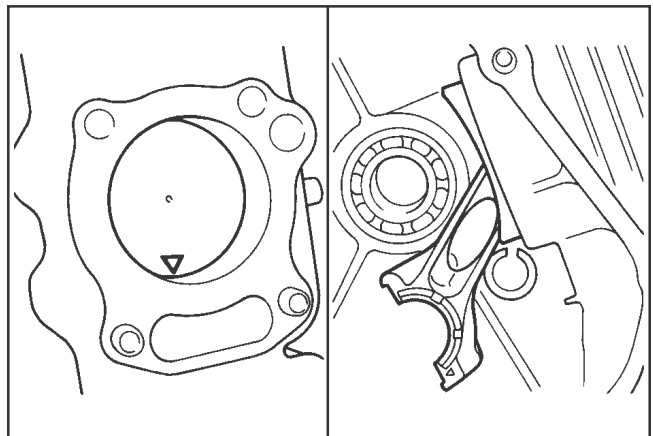

Figure 11-10. Piston Installation Details.
- a. The locating mark on piston is down. See Figure 11-10.